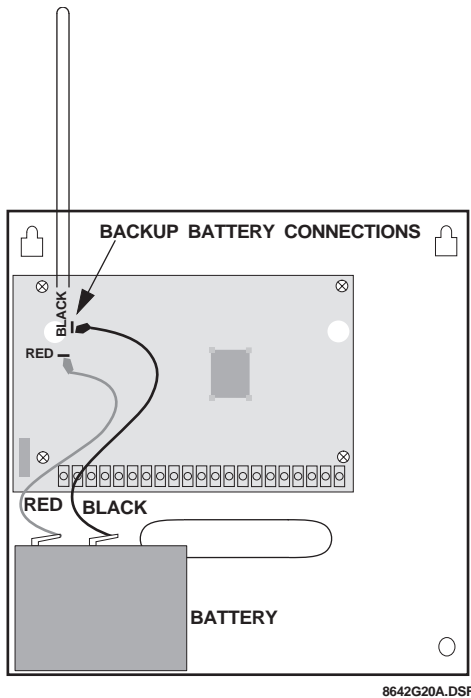

Figure 20. Connecting the Backup Battery
1. Connect the red and black battery leads (included with panel) to the lugs located in the upper-left area of the panel circuit board (see Figure 20).